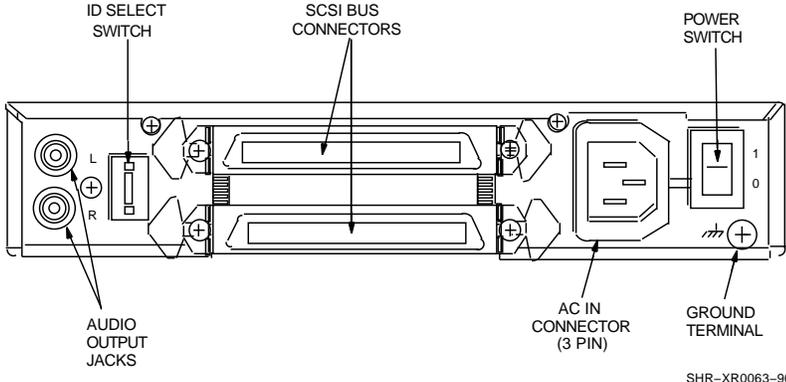
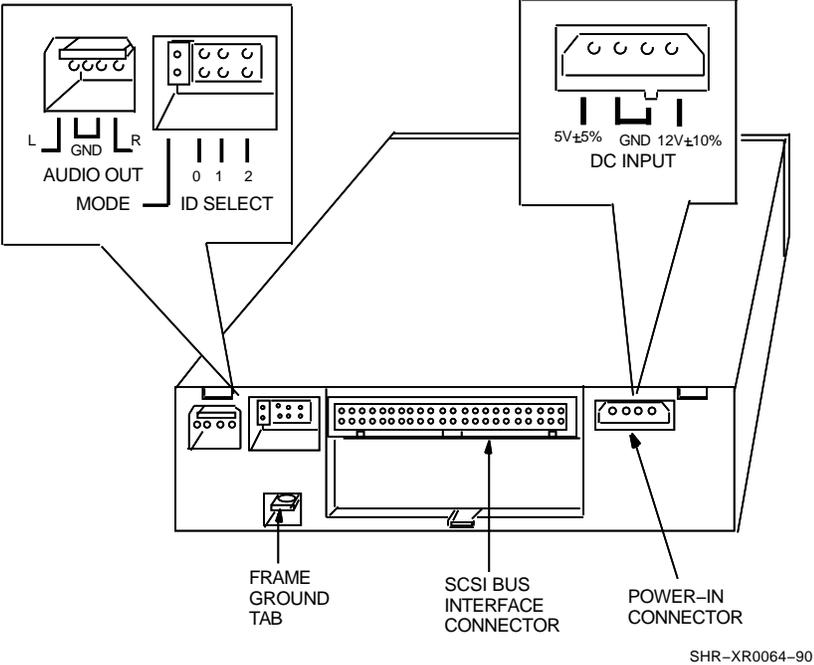

Figure 2-2 Rear Panel of the Tabletop Drive (-DA Version)
Figure 2-3 Rear Panel of the Embedded Drive (-AA Version)
See Figure 2-2 for a rear view of the RRD42 tabletop drive and Figure 2-3 for a rear view of the RRD42 embedded drive.
Figure 2-2 shows the rear panel of the RRD42 tabletop drive.
Figure 2-3 shows the rear panel of the RRD42 embedded drive with the jumper installed (Mode 1).
- Assign the SCSI bus ID number for each drive using the ID SELECT switch on the rear (Figure 2-2).
A set of pins with jumpers installed on the rear panel of the embedded drive must be set to correspond to the configuration of your computer system (Figure 2-3). Remove and install jumpers as necessary, using small pliers or tweezers.